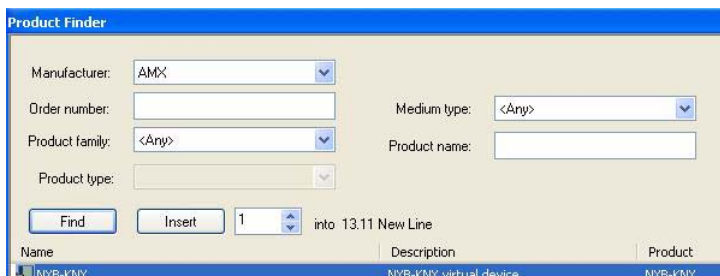

FIG. 25 Product Finder dialog
2. Select **Add Devices** to invoke the *Product Finder* dialog (FIG. 25):